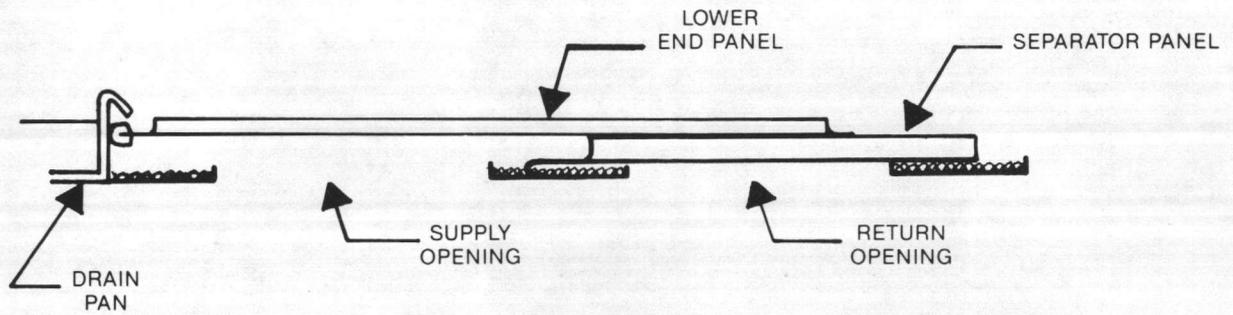

Figure 3 — Covering Bottom Openings
3. Position the separator panel (with insulation turned up) over the bottom return opening. Place the lower horizontal end panel over the supply opening (with the insulation turned down) and the gasket pushed up tight against the drain pan. See figure 3.